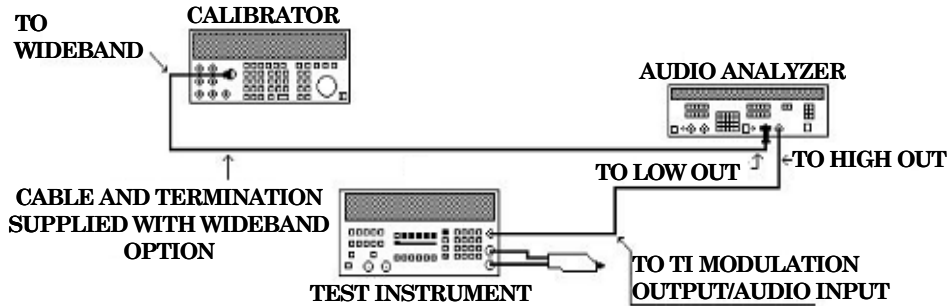

Figure 14. Audio measurement setup.
- (23) Connect equipment as shown in figure 14.
- (24) Set audio analyzer source output to 1 kHz at a level of 3 V.